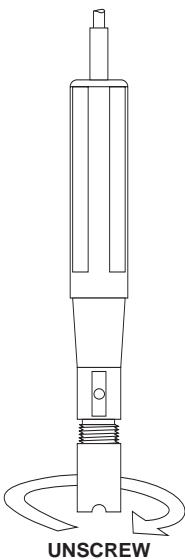

fig. 2
- Unscrew the membrane by turning it counterclockwise (see fig.2)